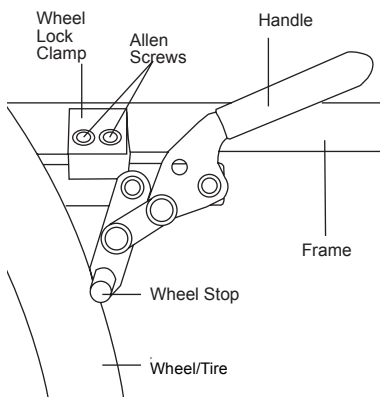

Figure 91
1. Loosen the Allen Screws in the wheel lock clamp. See Figure 91.
- Slide the old Standard Push to Lock wheel lock out of the clamp. See Figure 91.